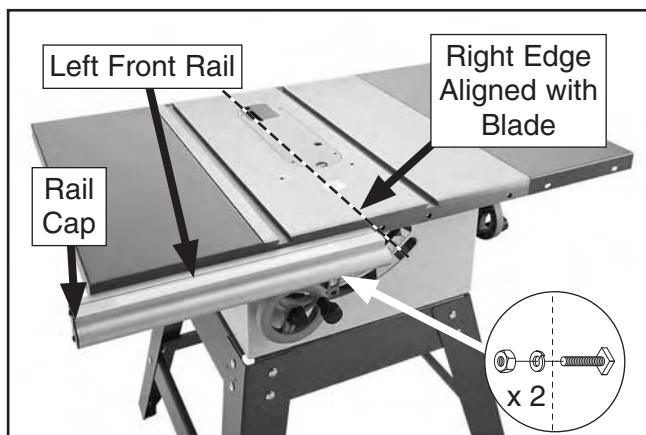
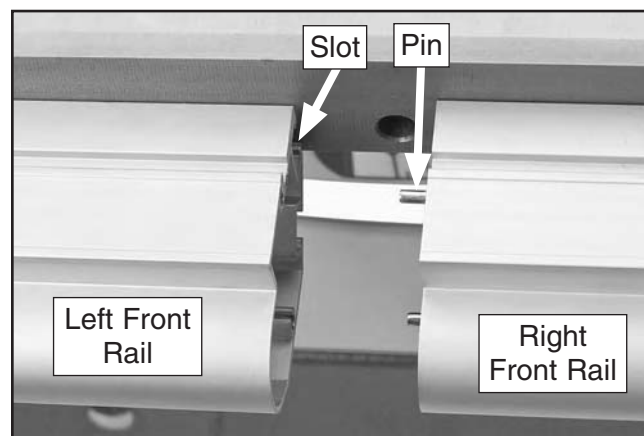

Figure 22. Left front rail installed.
Figure 23. Front rail pins and slots.
21. Insert the bolts into the corresponding holes on the extension wing and main table, then align the right edge of the left front rail (see **Figure 22**) with the saw blade.
22. Secure the front left rail with (2) 8mm lock washers and (2) M8-1.25 hex nuts, as shown in **Figure 22**. Do not fully tighten the fasteners yet. Also install the left rail cap with two M4 x 10 tap screws.
23. Slide (4) M8-1.25 x 20 T-slot bolts into the slot in the right front rail, then insert the bolts into the mounting holes in the extension wing and main table.
24. Slide the two pins on the end of the right front rail (**Figure 23**) into the holes in the left rail.